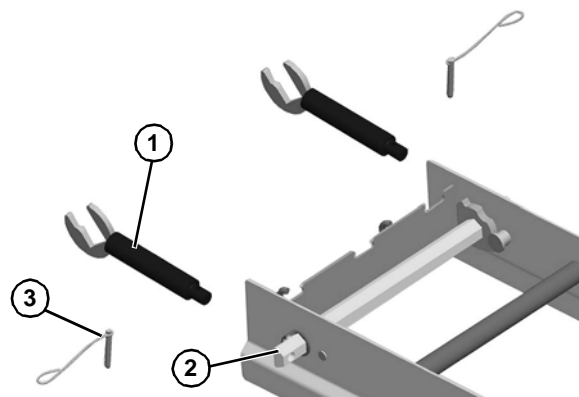

Figure 18
- Attach nose bar idler shaft hands (**Figure 18, item 1**) to the tip up shaft (**Figure 18, item 2**) with a pull pin (**Figure 18, item 3**).